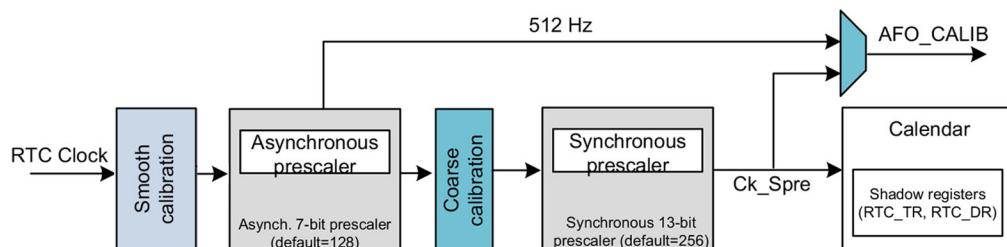

Figure 3: The structure of the RTC clock distribution
- It is not possible to check the calibration result, as the 512Hz output is before the calibration block (see Figure 34). You can check the calibration in some STM32 MCUs, as the 1Hz CK\_Spre output is after the coarse calibration block. Refer to the reference manual for your MCU.
When the reference clock detection is enabled, both *asynchronous* and *synchronous* prescalers must be set to their default values: 0x7F and 0xFF. When the reference clock detection is enabled, each 1Hz clock edge is compared to the nearest reference clock edge (if one is found within a given time window). In most cases, the two clock edges are properly aligned. When the 1Hz clock becomes misaligned due to the imprecision of the LSE clock, the RTC shifts the 1Hz clock a bit so that future 1Hz clock edges are aligned. The update window is three `ck_calib` periods (`ck_calib` is the output of the coarse calibration block - see Figure 3).